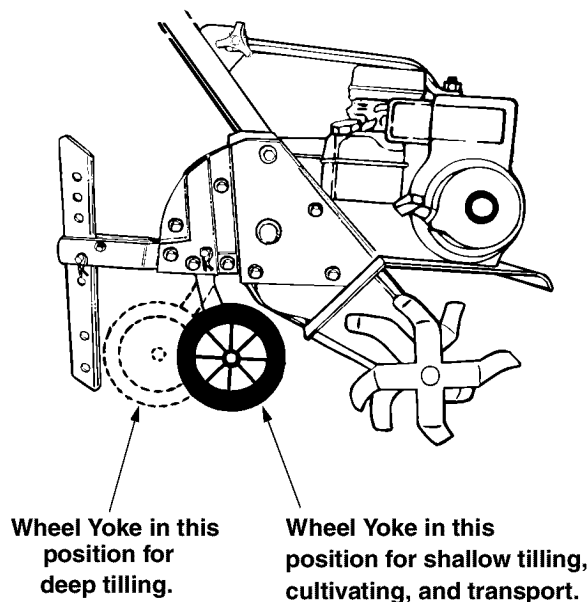

Figure 11
- **Wheel Yoke Adjustment:** Place wheel yoke so that the wheels are forward (nearest point between wheels and tines) for shallow tilling, cultivating and transport. The forward speed will increase. Turn yoke around (farthest point between wheels and tines) for deep tilling. Forward speed will decrease. See Figure 11.